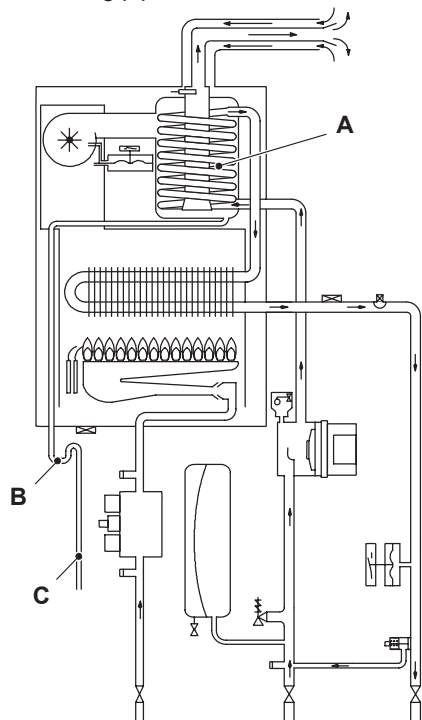
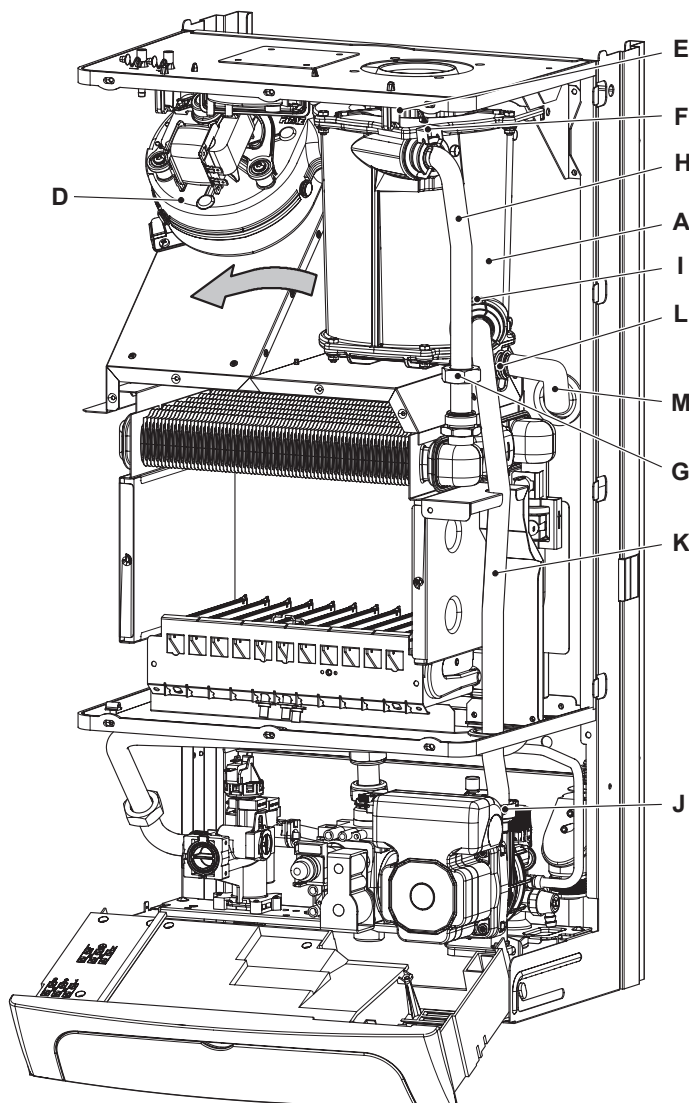

Figure 6.1
Figure 6.2
The return water flows through the condensing heat exchanger A in Figure 6.1 and Figure 6.2.
- 3 Remove the fan D in Figure 6.2 (see section "Removal of the Fan" page 29).